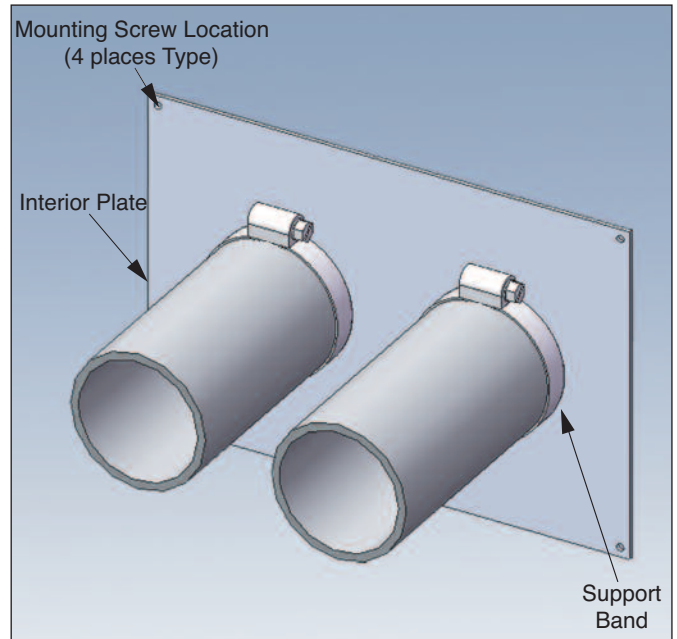
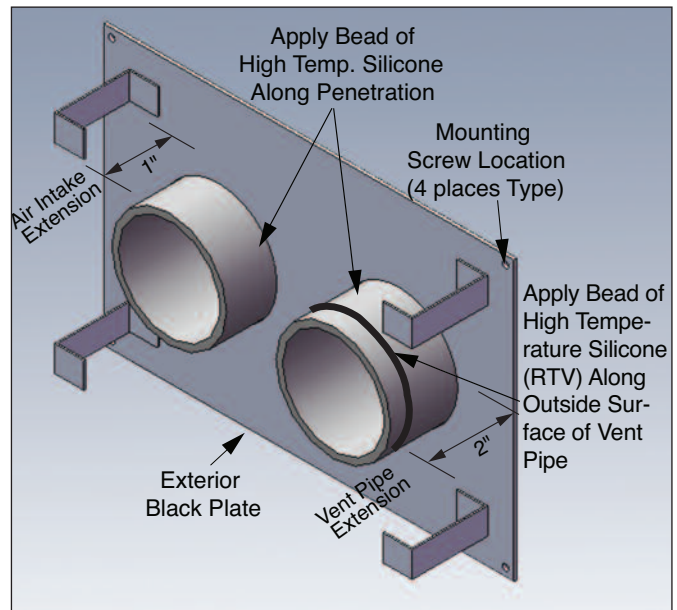

Fig. 2: Mounting of Interior Plate
Fig. 3: Mounting of Exterior Back Plate
- Install the air intake piping and the vent piping through the penetration holes. Ensure the air intake piping extends beyond the exterior face of the wall 1" and the vent piping extends 2" beyond the exterior face of the wall. Tighten the support bands on the interior plate to support the piping. See Figure 2 and Figure 3.
- Mount the exterior back plate over the protruding vent and air intake piping. Use the supplied #10 x 1" mounting screws to secure the plate to the exterior face of the building as shown in Figure 3.
- Apply a bead of high temp silicone (RTV) around the vent and air intake piping where it penetrates through the exterior back plate as shown in Figure 3.
- Apply a generous bead of high temperature silicone (RTV) along the outside circumference of the vent pipe as shown in Figure 3.